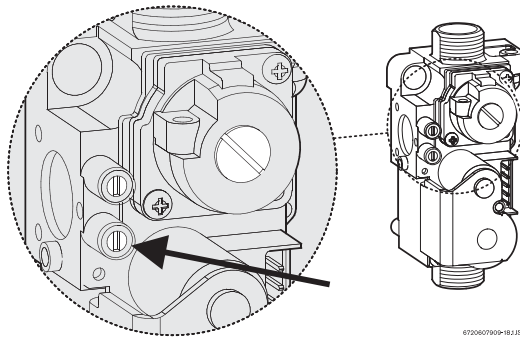

Fig. 27 Gas pressure measuring (lower tapping)
- ▶ Remove front cover and locate the inlet gas measuring point (see Fig. 27).